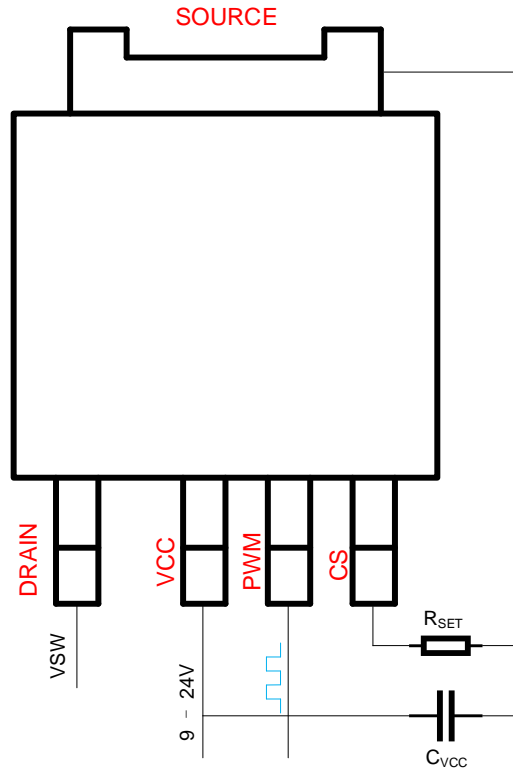

Figure 19. IC connection diagram
The typical connection diagram for this GaN Power IC is shown in Figure 19. The IC pins include drain of the GaN power FET (D), source of the GaN power FET (S), IC supply (V_{CC}), PWM input (PWM), and current sensing output (CS). The external components around the IC include V_{CC} filter capacitor (C_{VCC}) connected between V_{CC} pin and S pin, a current sense amplitude set resistor (R_{SET}) connected between CS pin and S.